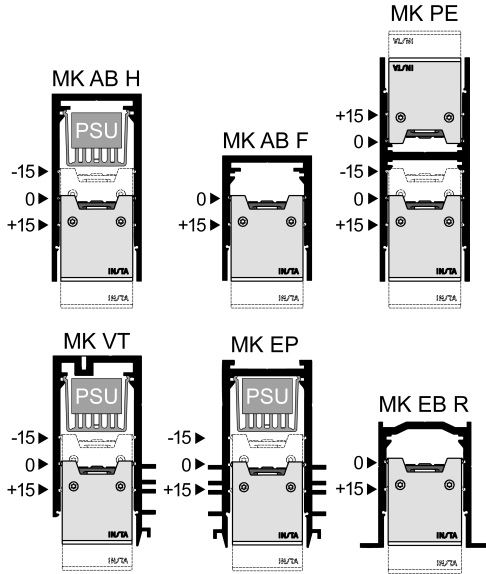

Figure 3: Latch positions depending on profile type
- Lay all connector cables in the profile (5) and fix them with cable holders (6).
- Connect the light insert (1) and push it into the profile (5) until the desired latch position is reached.
- i** Depending on the type of profile, various positions and latch positions are possible for the light inserts (Figure 3).